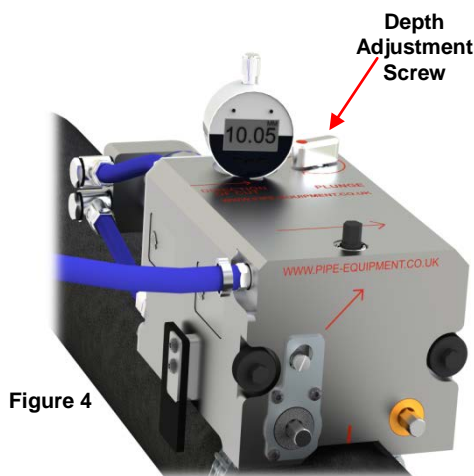

Figure 4
12. Slowly turn the depth adjustment screw (see Figure 4) until the blade just contacts the pipe, this can be 'felt' by a change in tone and a slight vibration in the cutter, assume that the tool is now cutting at a depth of 0.5mm